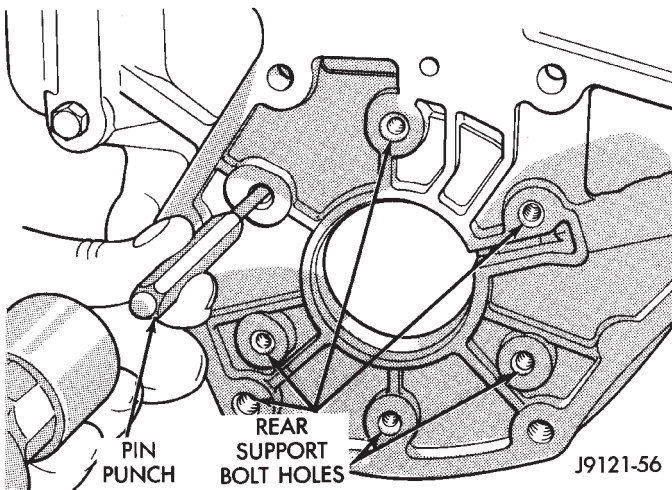
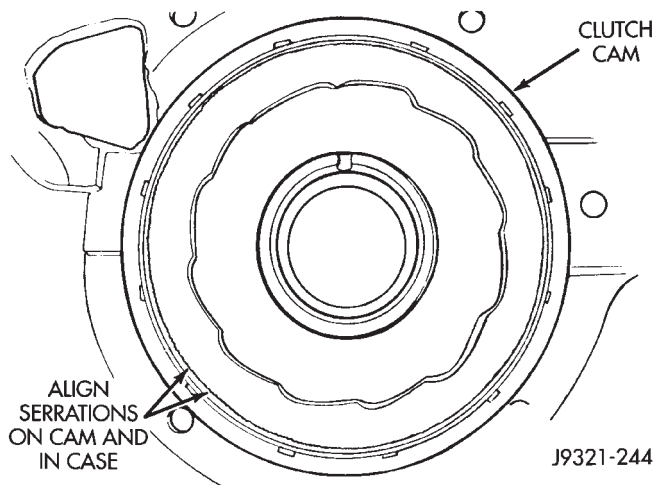

Fig. 40 Removing Overrunning Clutch Cam—46RH
Fig. 41 Positioning Replacement Clutch Cam And Spring Retainer—46RH
- (2) Tap old cam and spring retainer out of case with pin punch. Insert punch through bolt holes at rear of case (Fig. 40). Alternate position of punch to avoid cocking cam during removal.
- (3) Clean clutch cam bore and case. Be sure to remove all chips/shavings generated during cam removal.
- (4) Install rear support in case. Align support with reference marks made at disassembly.
- (5) Align and start new clutch cam and spring retainer in case. Be sure serrations on cam and in case are aligned (Fig. 41). Then tap cam into case just enough to hold it in place.
- (6) **Verify that cam is correctly positioned before proceeding any further. Narrow ends of cam ramps should be to left when cam is viewed from front end of case (Fig. 41).**